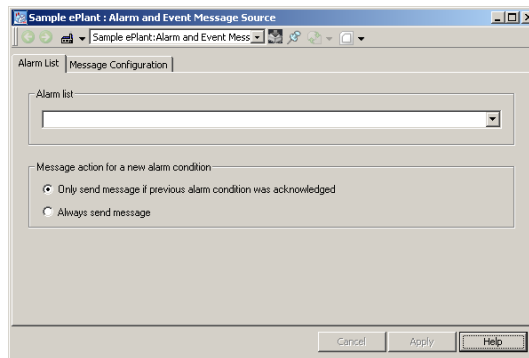

Figure 110. Alarm and Event Message Source - Alarm List Tab
4. Right-click the object and select **Alarm and Event Message Source** from the context menu that appears. This opens the Alarm and Event Message Source shown in Figure 110 with the **Alarm List** tab selected. This tab allows for selection of the Alarm and Event List to monitor.